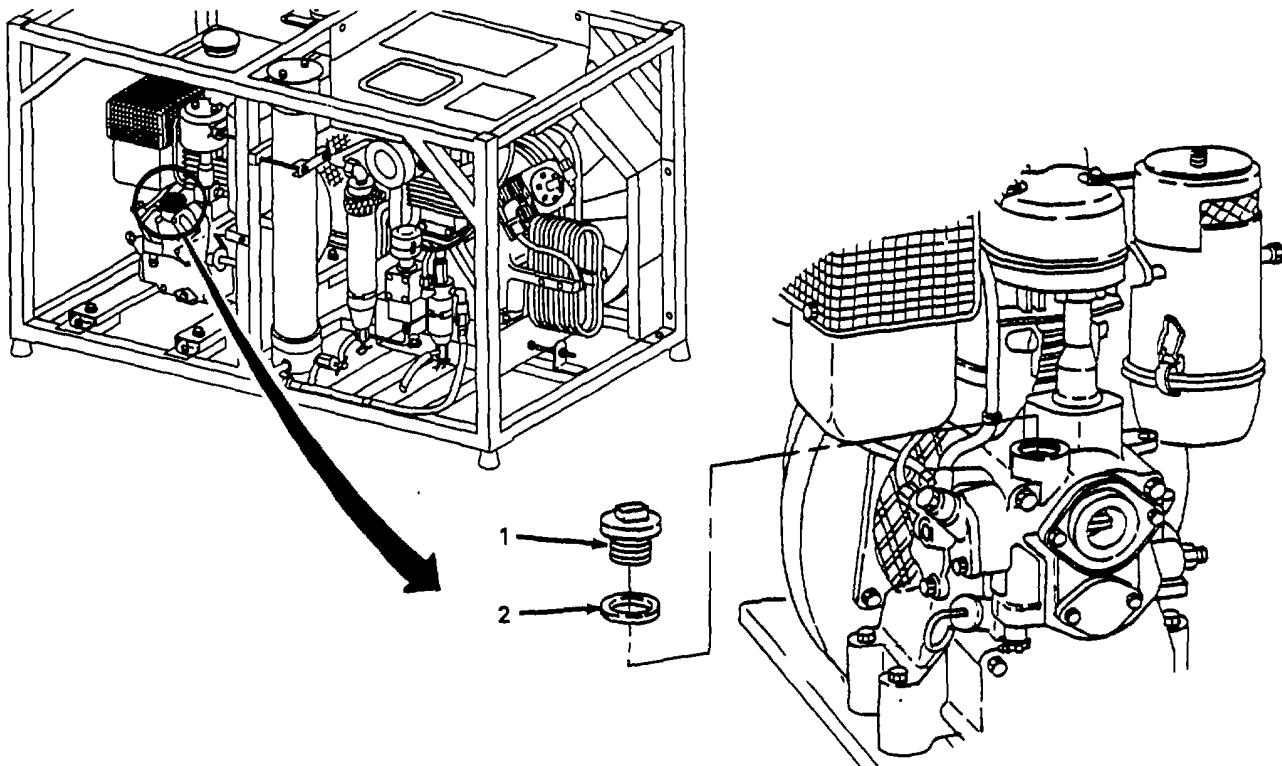

Figure 4-30. Filler Cap, Replace.
- (3) *Replace filler cap.* (figure 4-30).
- (a) Clean area around filler cap (1) and ensure all dirt and debris is removed.
- (b) Remove filler cap (1) and gasket (2).
- (d) Install filler cap (1) and gasket (2).